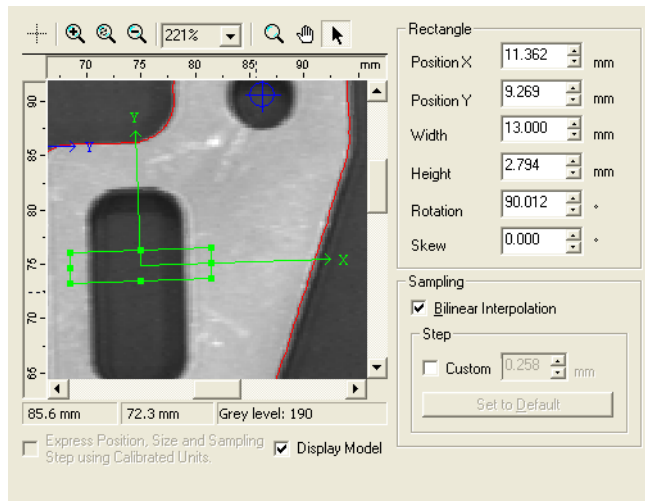

Figure 29 Adjusting the Size, Position and Orientation of the Caliper Rectangle
8. Place the Rectangle on the part as shown in Figure 29.